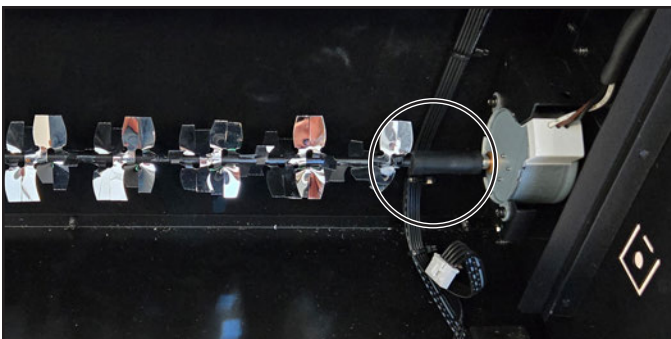

Figure 22 Rotisserie Rubber Sleeve
5. Remove rotisserie from the rubber sleeve connecting it to the motor. See Figure 22.